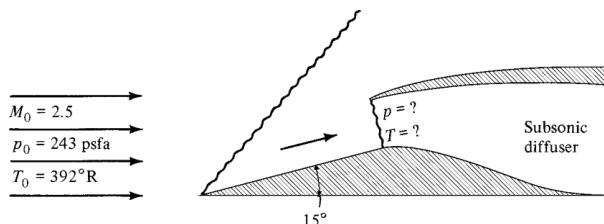

Figure P7.13
- 7.13 Pictured in Figure P7.13 is the air inlet to a jet aircraft. The plane is operating at 50,000 ft, where the pressure is 243 psfa and the temperature is 392 °R. Assume that the flight speed is  $M_0 = 2.5$ .